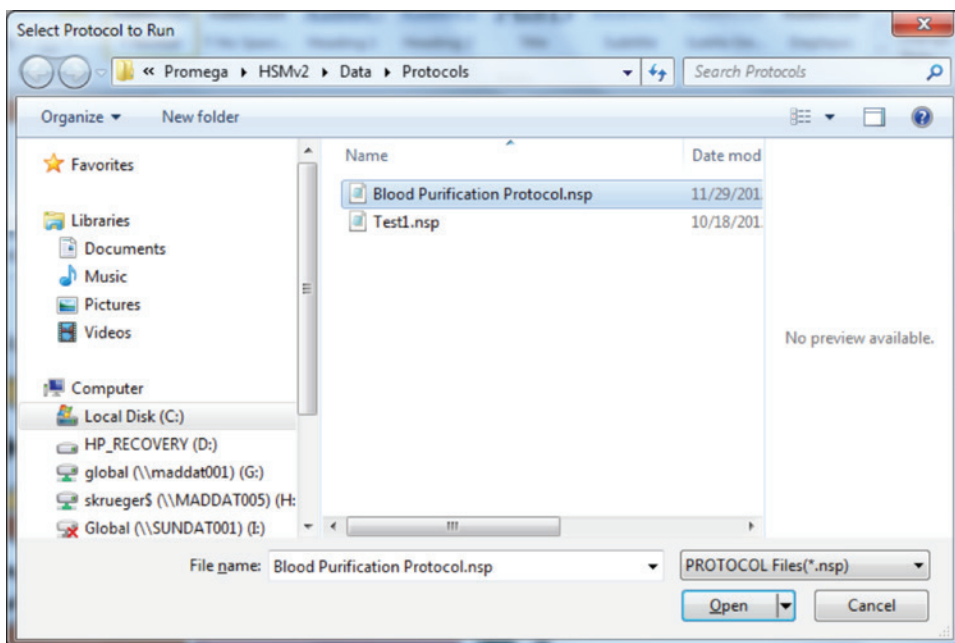

Figure 13. Protocol Selection window. To select a method, browse to the appropriate file location and select a method file (.nsp extension).
Select **“Start Protocol”**. The **Protocol Selection** window (Figure 13) will open if: (1) multiple processing methods are available or (2) the administrator has required that users always select processing methods. Processing methods are presented as .nsp files. Select the .nsp file you wish to run. Double-click to open, or select the file and click **“Open”** to initiate the processing method. If neither (1) nor (2) apply, the “Select Available HSM 2.0 Instrument” window will open (Figure 14) immediately.